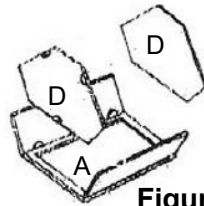

Figure 4
3. Installing the Top and Bottom (Figure 4): Gently spread side panels and insert the top & bottom panels (D) into the grooves of side panels (B1 & B2) until it touches the face frame (A). Well align it and lock each cam.